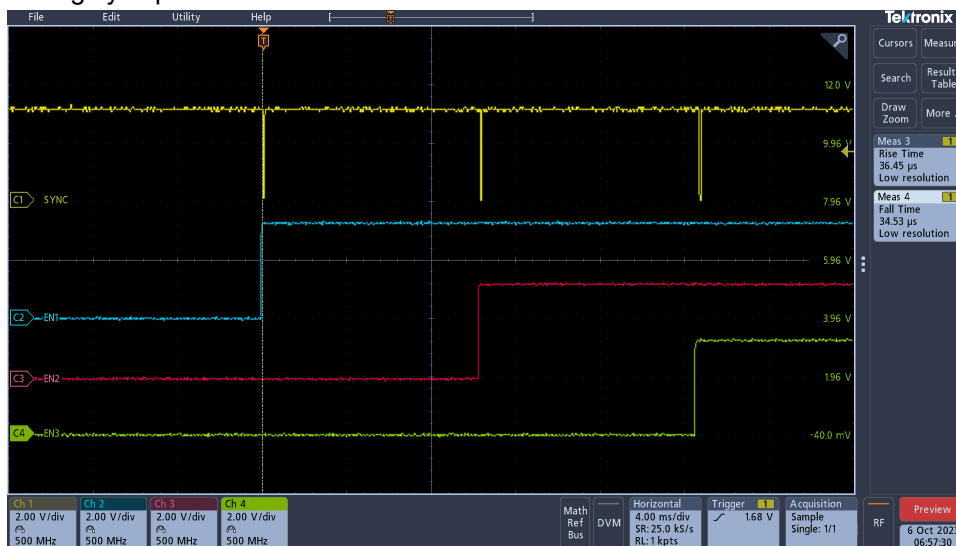

Figure 4-5. Power Sequence Up with Sync
- d. Figure 4-5 shows correct operation of the first three enable signals in the power up sequence and the corresponding sync pulses from the TPS389006.